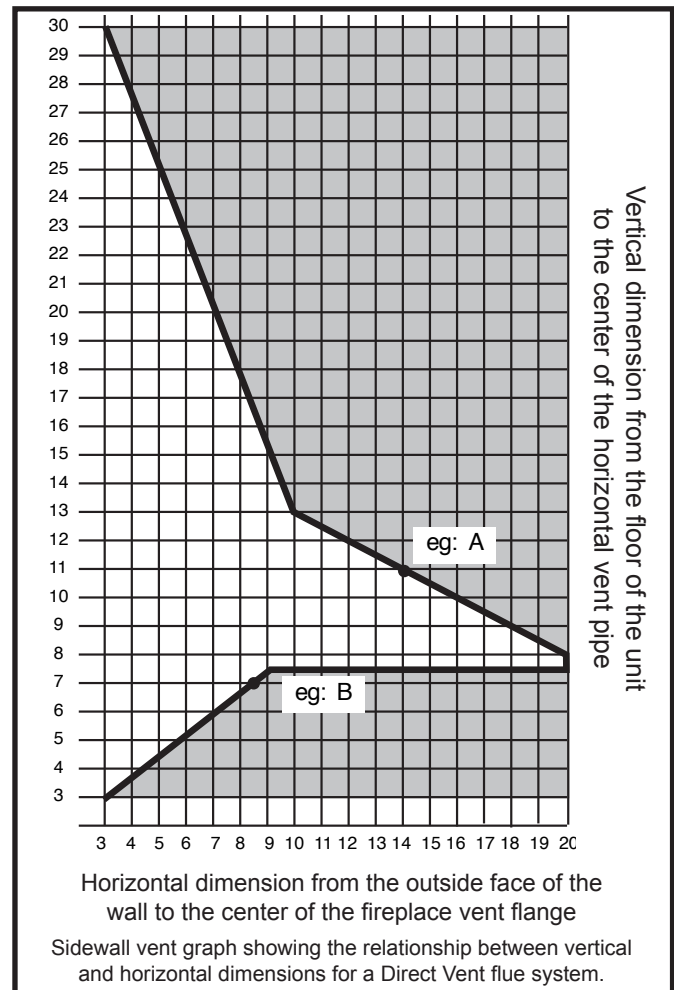

Fig. 14 Sidewall venting graph. (Dimensions in feet)
1. Determine the height of the center of the horizontal vent pipe exiting through the outer wall. Using this dimension on the Sidewall Vent Graph (Fig. 14) locate the point intersecting with slanted graph line.